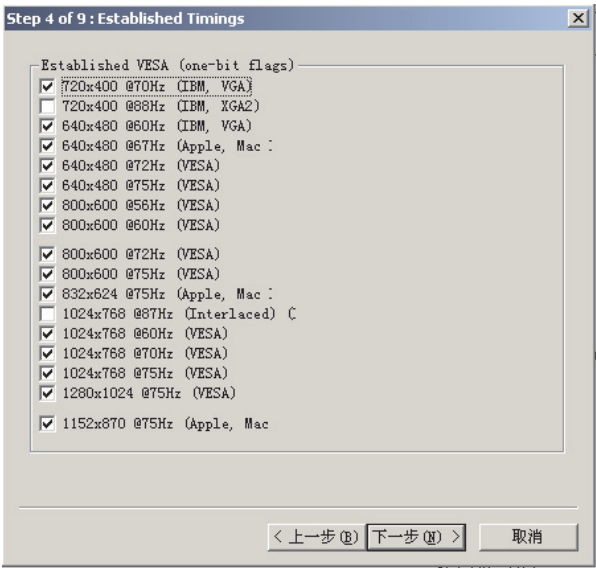

Fig. 30
3. Click Next , bring up Fig. 30.